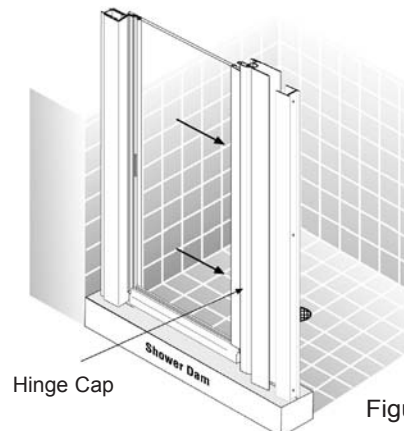

Figure 5
- B. The Frameless Glass Door (#1) will install over the Wall Jamb (#9) on the wall opposite the shower head. Make sure that the hinge cap of the CW® Rotary Gear Hinge Assembly (#1) faces out of the shower enclosure as shown in Figure 5.
- C. Carefully lift the door and slide the hinge jamb portion of the CW® Rotary Gear Hinge Assembly (#1) over the Wall Jamb (#9) (See Figure 5).
- E. Standing inside the shower, use the 7/64" Drill Bit to drill a hole 6" down from the top of the hinge jamb of the CW® Rotary Gear Hinge Assembly (#1) through the both Slip Jambs. Drill another hole 6" up from the bottom and also one in the middle. Secure the CW® Rotary Gear Hinge Assembly (#1) to the Wall Jamb (#9) with the three #6 x 1/4" "B"-Point Screws (#15) (See Figure 5).